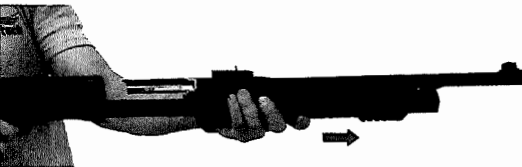

Fig. 12
7. Remove the forend and barrel from magazine tube by sliding forward. (Fig. 12)